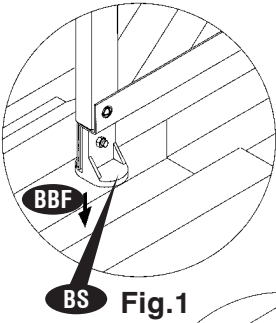
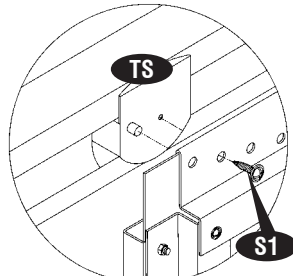
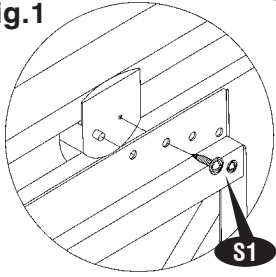

Fig.1
Fig.2
Fig.3
8. Assemble the door panel strip (**TSLA**) with door panel. Make sure the door panel top edge to be inserted into the (**TSLA**). See fig. 1. Secure the (**TSLA**) with (**DSS**) and door panel with (**S1**) screws. See fig. 2. Use (**S3**) bolt and nut with washers to secure with door panel at the middle of (**TSLA**). See fig. 3.
11. Slide the door panel assembly into the base bar front (**BBF**). Make sure the bottom slider (**BS**) should slide inside the base bar front. See fig.1. Fix the door panel top to the top slider (**TS**) with (**S1**) screws. See fig.2 & 3